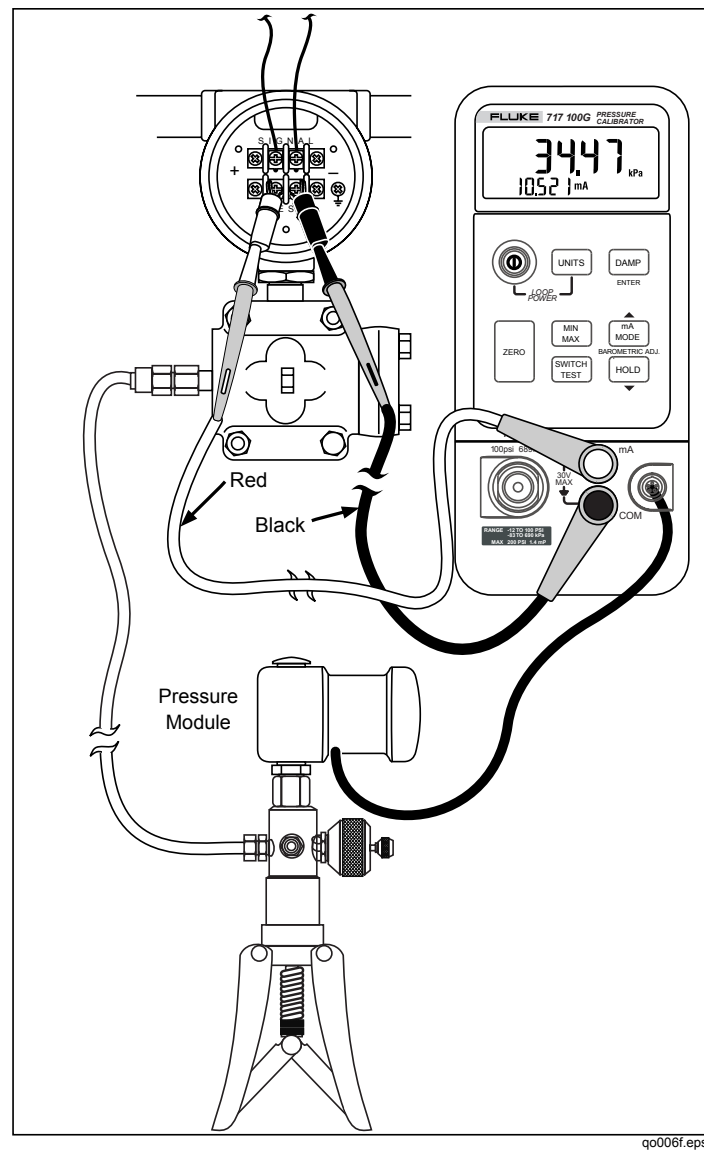

Figure 5. Connecting to a Pressure Module
3. Connect the Calibrator to the transmitter as shown in Figure 4 or Figure 5.
To replace the battery (see Figure 5):